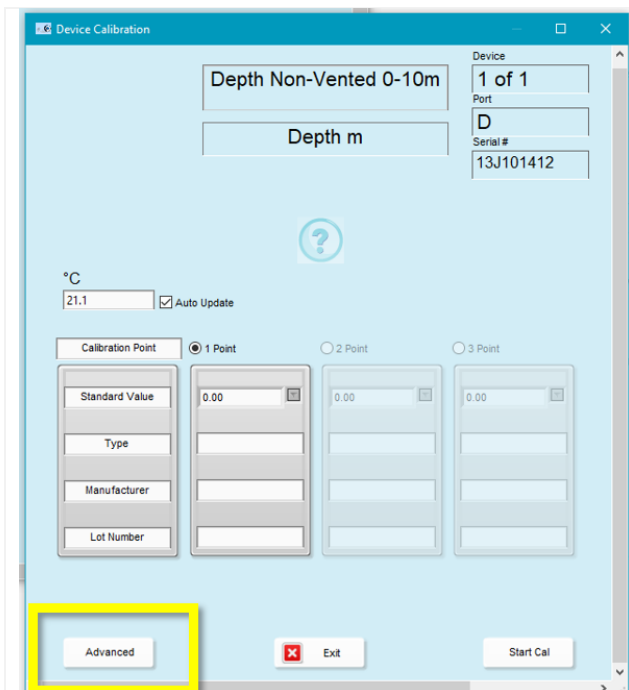

Figure 176. Click on "Advanced" for Factory Reset
**STEP 1** | In the sensor probe **Device Calibration** window, select "**Advanced**" in the bottom right corner (Figure 176).